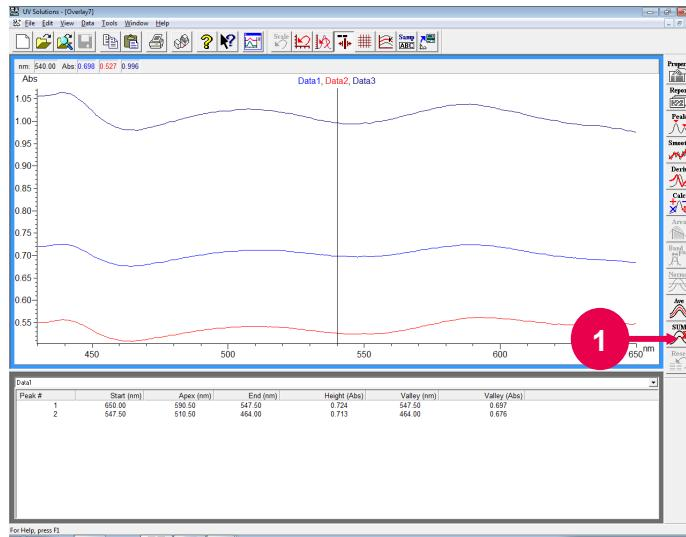
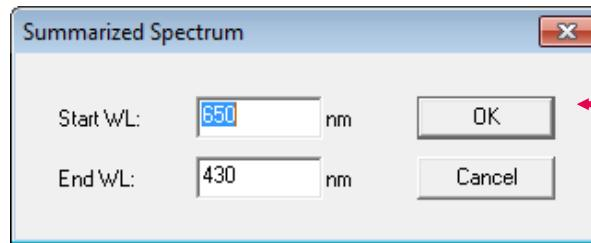

Fig. 5-82
Fig. 5-83
The window shown in Fig. 5-82 will appear.
- (2) Click the (Summarized Spectrum) button. (Refer to ① in Fig. 5-82.) Enter the start wavelength and end wavelength for calculation of the sum of spectra and click the **OK** button. (Refer to ② in Fig. 5-83.)